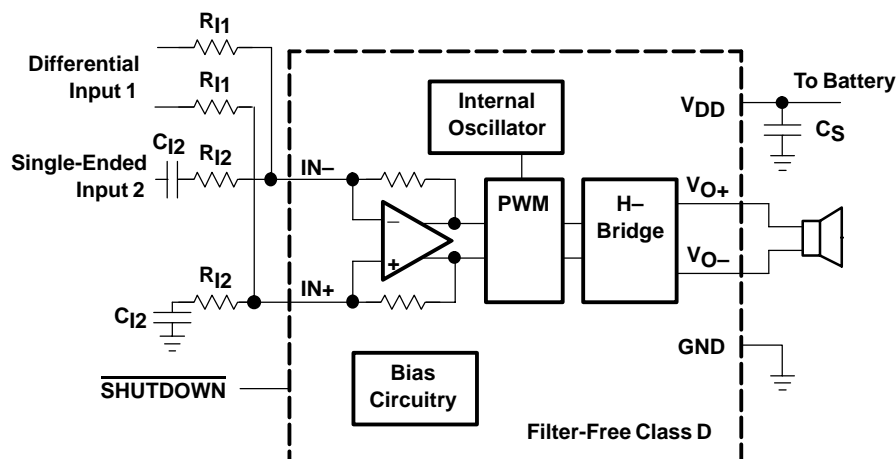

Figure 30. Application Schematic With TPA2005D1 Summing Differential Input and Single-Ended Input Signals
Figure 30 shows how to sum a differential input signal and a single-ended input signal. Ground noise can couple in through IN+ with this method. It is better to use differential inputs. The corner frequency of the single-ended input is set by C_{I2} , shown in equation (8). To assure that each input is balanced, the single-ended input must be driven by a low-impedance source even if the input is not in use